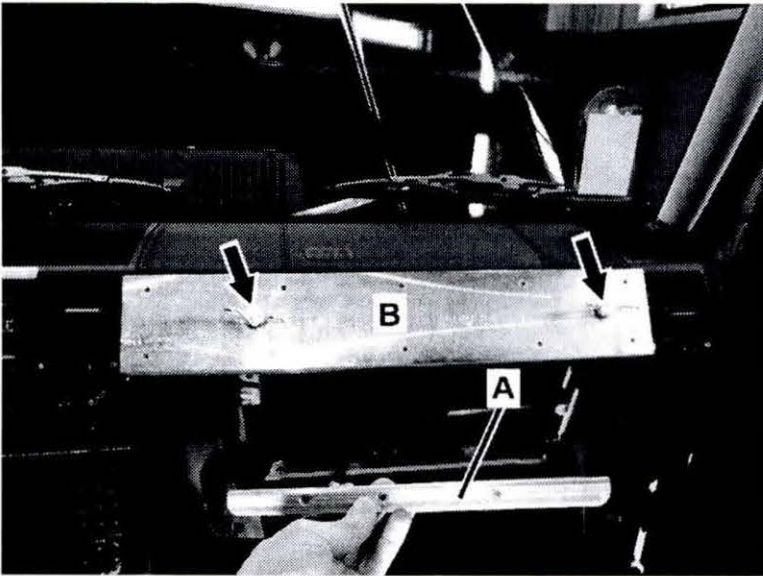
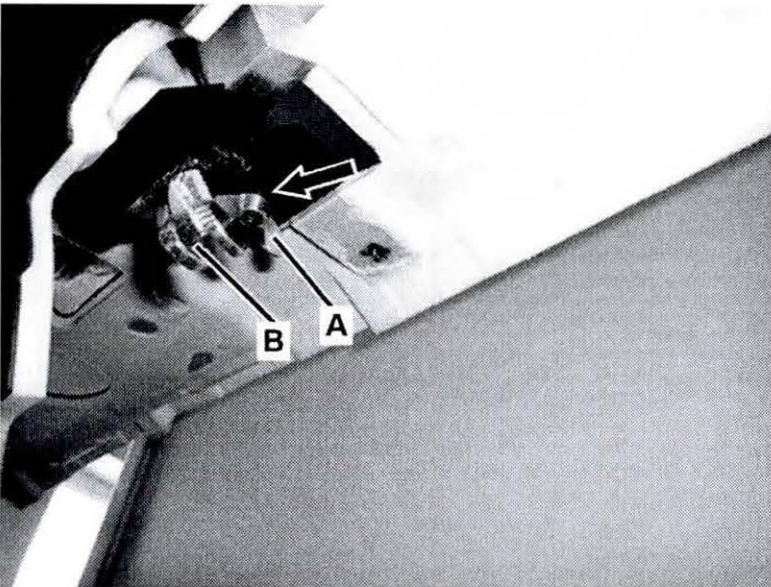

Figure 5
Figure 6
2. Attach drilling template (A, Figure 5) through opening of removed glove compartment (Figure 5):
- Secure drilling template (A, Figure 5) in place at mounting studs (arrow, Figure 6) for front passenger airbag with M6 wing nuts (A, Figure 6) from parts kit.
- Attach support plate (B, Figure 5) to instrument panel from outside and secure into place with M10 screws (arrows, Figure 5) and wing nuts (B, Figure 6) from parts kit.